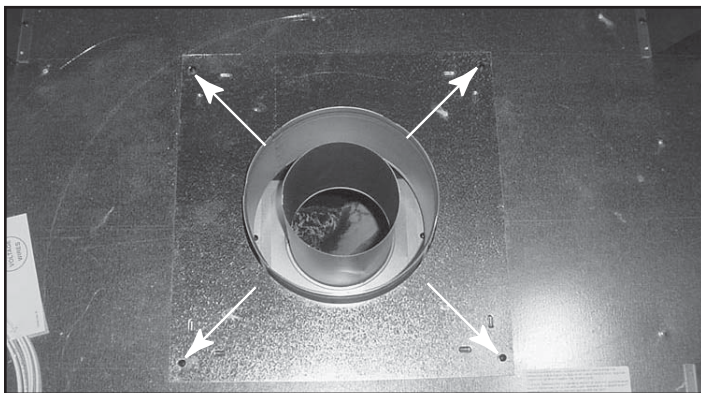

Figure 7.1 Cover Plate - Remove Four Screws
- Remove four screws holding the plate surrounding the flue. See Figure 7.1 Remove plate and set aside.